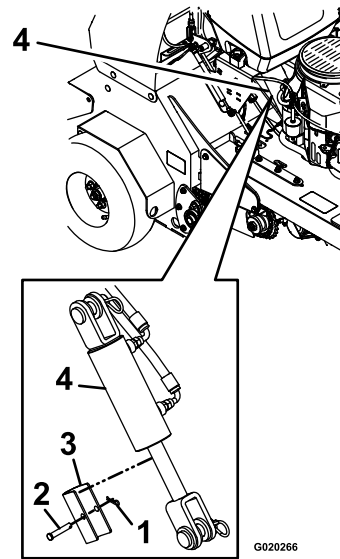

Figure 5
10. Remove and retain the hairpin, clevis pin, and cylinder stop (Figure 5).